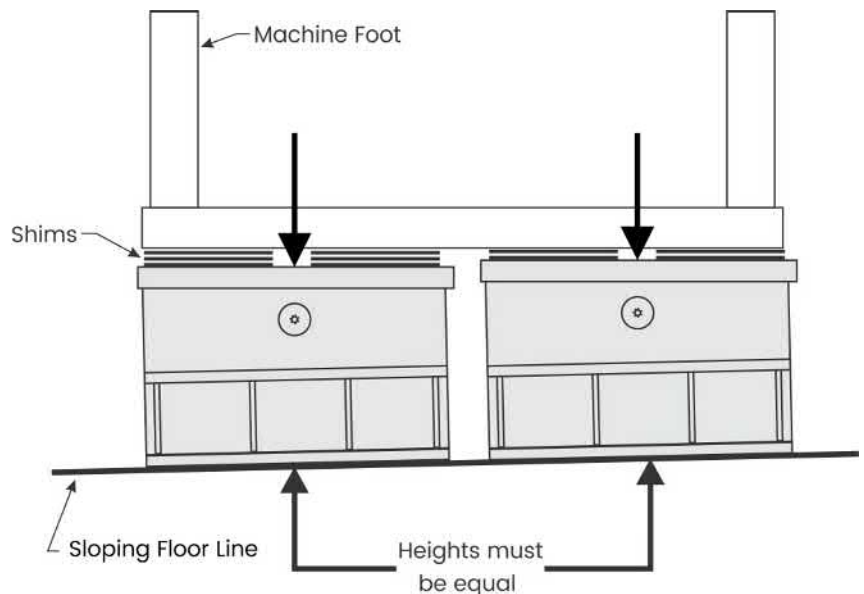

Figure 6
6. Some installations may require multiple spring isolators installed under the same foot. It is important that the compression of each isolator be measured to ensure uniform loading of each isolator under the foot. If grout plates are not used, and the supporting surface under the spring isolators is sloped, the spring isolators will not be equally loaded. Measure and compare the average spring height in each isolator as shown in the Figure 6. Simply measuring the isolator height in the middle of each isolator will give the average. If the average isolator heights are not equal, apply shims to the higher isolator until the average heights are within 0.1" (2.5mm). This should be done prior to making any leveling adjustments. Shims should be inserted on the top of SVXN models and either on the top or the bottom of the SVX models.